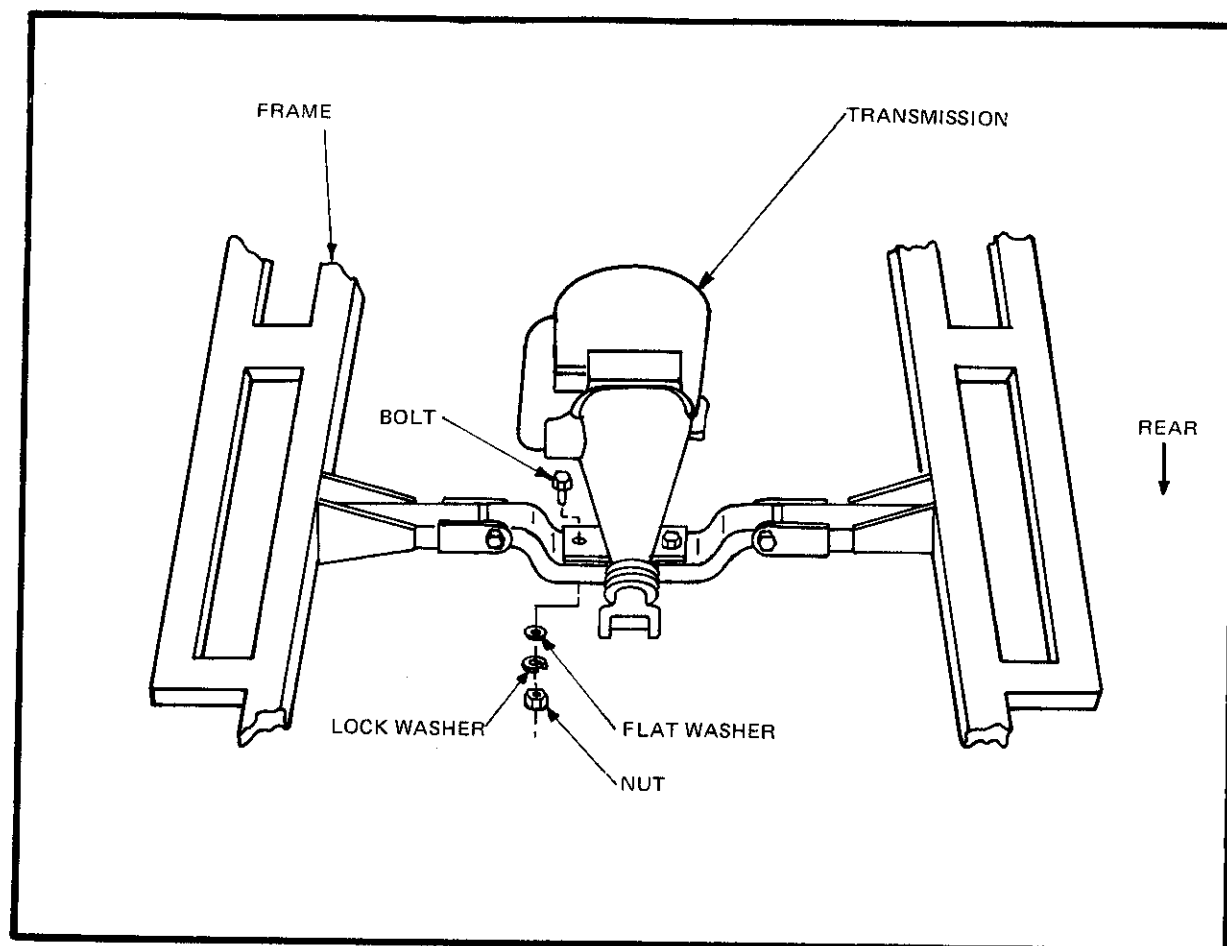

Figure 14
- ☐ Install transmission bracket in frame and secure with original Ford nuts and bolts. Make certain that the longer side of the bracket projects toward the rear of the car, as in the Ford. (Figure 14)